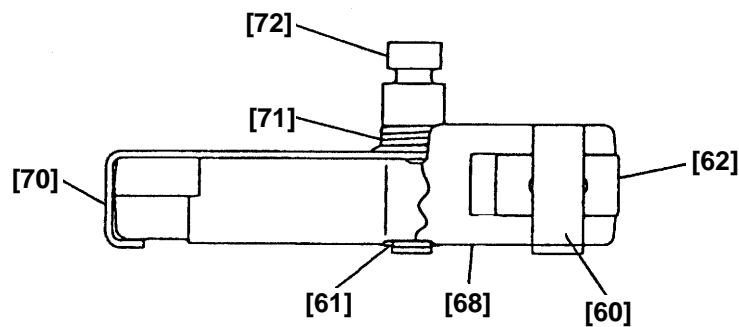

Fig. 21
(9) Disassembly of bracket (A) unit (Fig. 21)